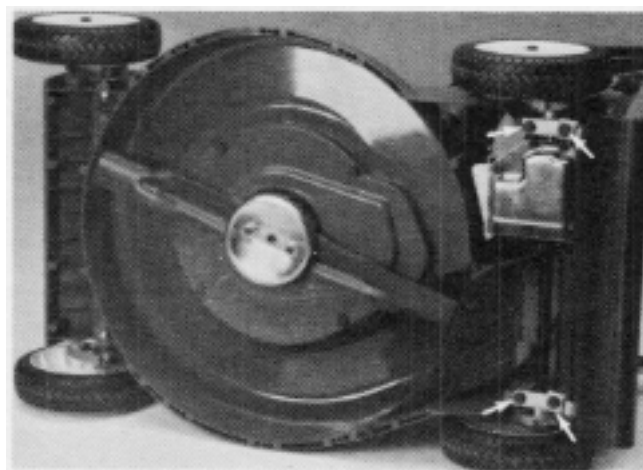

Figure 73
4. Slip the two rear end cap fasteners through the safety shield guide wires then install. Tighten all four end cap fasteners. See Figure 73.